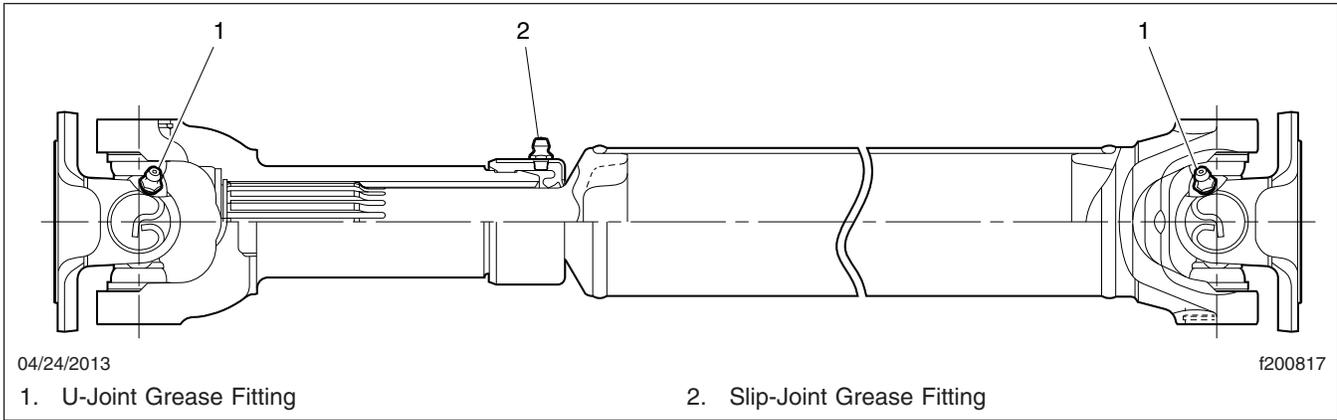

Fig. 3, Slip-Joint and U-Joint Lubricating
2. Use a hand-type grease gun, or a high-pressure gun with a low-pressure adaptor, to lubricate the U-joints. See **Fig. 3**.
3. Use a hand-type grease gun or a high-pressure gun with a low-pressure adaptor, to lubricate the slip-joint. See **Fig. 3**. Using lithium 12-hydroxy stearate grease (NLGI grade 2, with EP additives and meeting ASTM D4950 LB specifications), lubricate until fresh grease appears at the pressure-relief hole in the yoke plug. Then cover the relief hole with your finger, while continuing to lubricate until fresh grease appears at the slip-joint seal. This ensures complete lubrication of the splines.